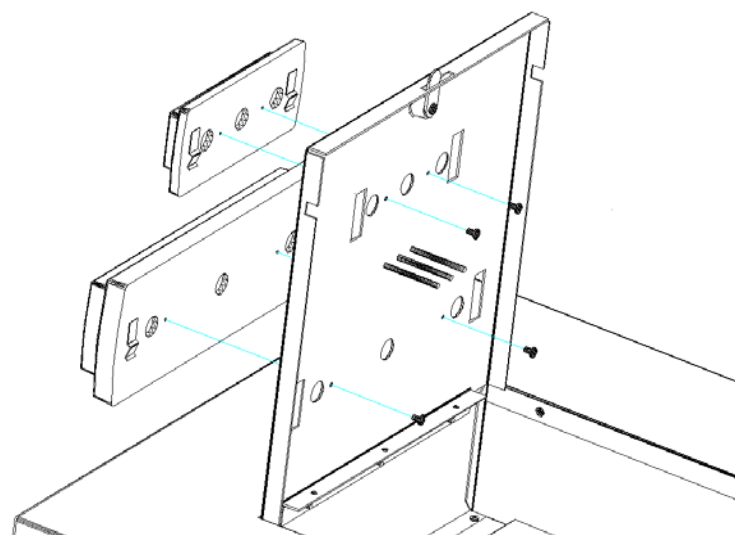

Figure 2 - Installation of Cisco Antennas.
Step 2 – Install Cisco 2.4 GHz and 5 GHz antennas by inserting the connectors and cables through the .700" dia. holes in the cover. The antennas should be installed so that the open ends of the T-Bar clips on the antennas are facing toward the hinge of the enclosure. After the cables have been pulled through the door, use the #4-40 screws to connect the antennas as shown in Figure 2.